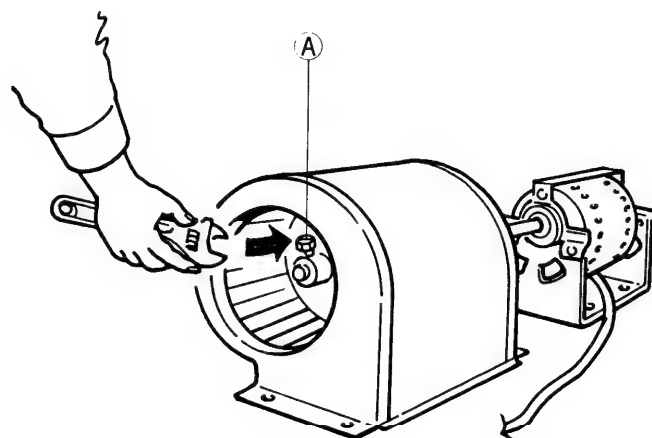

Fig.8
- ④ Loosen the bolt (A) fixing the fan boss on the motor shaft.
- ⑤ Pull the motor shaft from the fan. Fig.8.